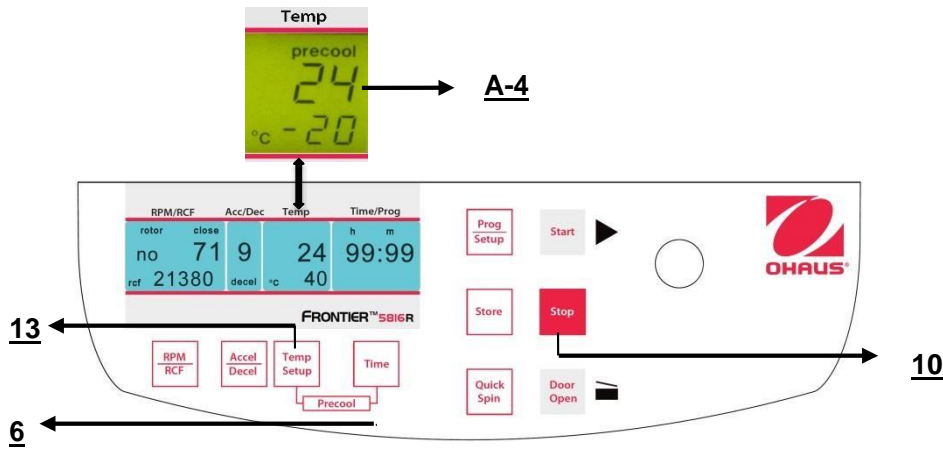
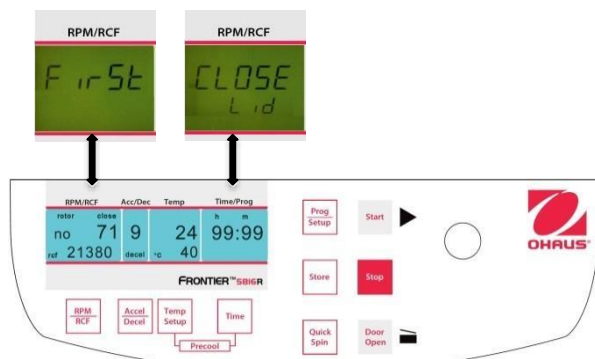

Figure. 23
Figure. 26
Close the lid of the centrifuge. Now proceed as described previously to set all important run parameters. If the lid isn't closed when storing the program, in the display "**RPM/RCF**" (A-1), the words "**FirSt**" and "**CLOSE Lid**" (See figure 23) flashes alternately. If you want to start the run without storing the program, in the display "**RPM/RCF**" (A-1), the words "**First**" and "**PrESS StoreE**" (See figure 26) flashes alternately.
For adaption of data press the key "**Store**" (12) (refer to figures 26 and 27) for approx. 1 second. If the program is stored correctly, the word "**StorE**" appears in the display "**RPM/RCF**" (A-1). As a result, the word "**programm**" (M10) disappears.
You can start the centrifuge either with the "**Start**" key (9) (refer to figure 26) or the "**Quick Spin**" key (8).